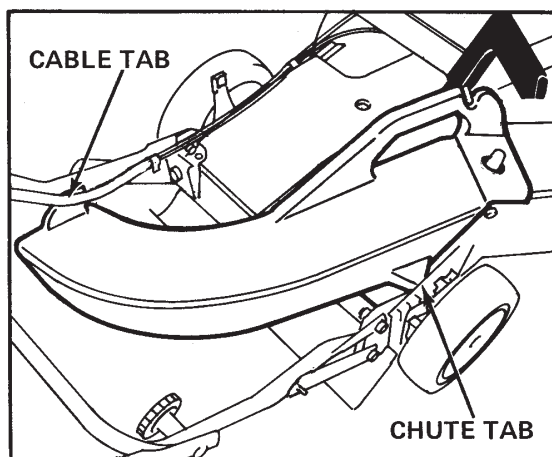

Figure 2
3. Position chute tab in front of wide portion of rear housing wall as shown in Fig. 2.
4. Slide guide hole in discharge chute onto locating stud on mower housing, assuring chute fits over mower housing opening (Fig. 2).
5. Squeeze lockout lever until it clears the housing latch. Then move handle rearward until it locks in notch of chute handle (Fig. 2). The chute door in mower housing is now open.